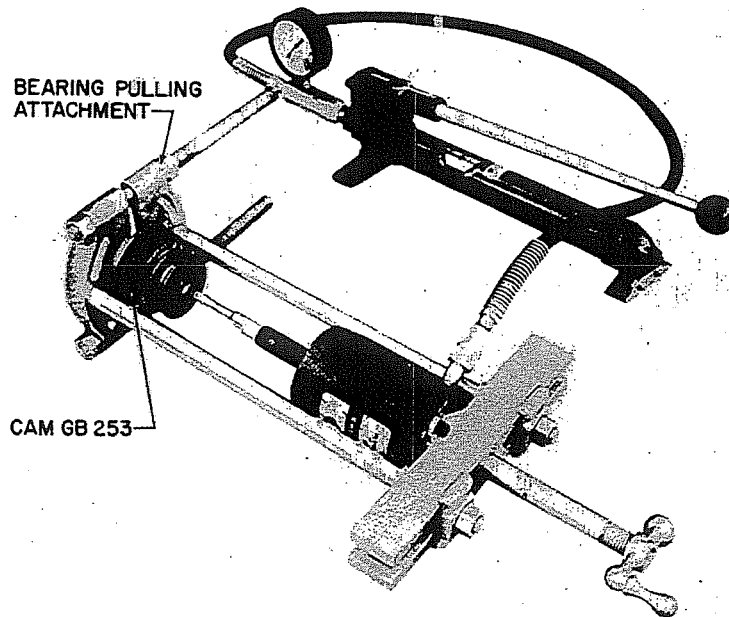

Figure 48. Detector, Installation of Cam GB253
- X. Secure the bearing pulling attachment behind Rake Hook Cam GB253 and install (figure 48).